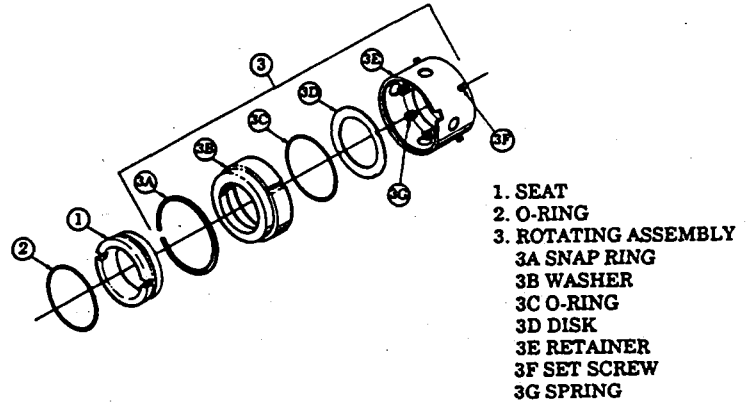

Figure 3. Crane Type 8-1 Mechanical Seal — O-ring Seat
(Figures 3, 5 and 8) Stationary assembly, seat (1) and O-ring (2), is removed with spacer (048, 081 or 092). Remove mechanical seal seat (1) from spacer 048, 081 or 092) and remove O-ring (2) from seat (1).
(Figures 3, 5 and 8) Install mechanical seal seat (1) and O-ring (2) in spacer (048, 081 or 092), ensuring that spring pin is properly positioned to engage slot in mechanical seal seat (1).
STEP 2. Remove capscrews or bolts (004) and, if applicable, washers (091 or 092) and inlet head (002).
STEP 3. Remove gasket (009) from case (001) or O-ring (088) from inlet head (002) groove.
STEP 4. Remove retaining ring (008) or spacer (089) from case (001).
STEP 5. Remove thrust cage (029). Remove oil balance tube (026) with O-rings (027) from either cage (029) or housing (050 or 073). Remove O-rings (027) from tube (026).
STEP 6. Remove idler balance piston housings (023) from idlers (021). Remove idlers (021) by unscrewing them from housing (050 or 073). Remove remaining idlers (035) from housings by rotating power rotor (063) in a counter-clockwise direction. Do Not permit idlers to drop as they emerge from housings.
STEP 7. Remove bolts (047) and, if applicable, washers (091 or 092) and bearing retainer (043) from case (001).
STEP 8. Remove assembled power rotor (063) from pump and disassemble power rotor as follows:
- a. Remove outer truarc ring (042), ball bearing (049) and inner truarc ring (042) from power rotor (063).
- b. Remove spacer (048, 081 or 092) from power rotor (063).
- c. If applicable, remove mechanical seal (025) as follows:
- (1) (*Figures 3, 5, 7 or 8*) Removal of spacer (048, 081 or 092) will also remove mechanical seal seat (1) and O-ring (2) and spring pin (082, 083, 092 or 093). Remove mechanical seal seat (1) from spacer (048, 081 or 092) and remove O-ring (2) from seal seat.
- (3) (Figures 3, 5, 7 and 8) Install O-ring (2) in groove of mechanical seal seat (1). Install mechanical seal seat (1) in spacer (048, 081 or 092), ensuring that spring pin (082, 083, 092 or 093) is properly positioned to engage bore of seal seat. Refer to Mechanical Seals for assembly procedures for applicable seal design.
- c. Install spacer (048, 081 or 092) on power rotor (063) shaft.
- d. Install inner triarc ring (042) in groove of power rotor (063).
- e. Press ball bearing (049) on power rotor (063), pressing only on inner race of bearing (049).
- f. Install outer triarc ring (042) in groove of power rotor (063) shaft.
STEP 15. Install assembled power rotor (063) in pump, centering all parts as they enter inboard cover (046 or 085). NOTE: If applicable, bearing spacer (048 or 081) is to be aligned with slot located over drain.
STEP 16. Install bearing retainer (043) on cover (046) using bolts (047). If applicable, install washers (091 or 092) with bolts (047). Torque bolts (047) to proper value listed in Table 2.
STEP 17. Install idlers (035) by meshing threads of idlers (035) with threads of power rotor (063) and rotating power rotor (063) in direction of normal rotation of pump to screw idlers (035) into housing idler bores.
STEP 18. Install idlers (021) in housing (050 or 073) idler bores described above. Install idler balance piston housings (023) on idlers (021).
STEP 19. Install O-rings (027) on oil balance tube (026) and install oil balance tube (026) in housing (050 or 073). Install thrust cage (029), ensuring that bore in thrust cage (029) engages oil balance tube (026) in housing (050 or 073).
STEP 20. Install retaining ring (008) or spacer (089) in case (001).